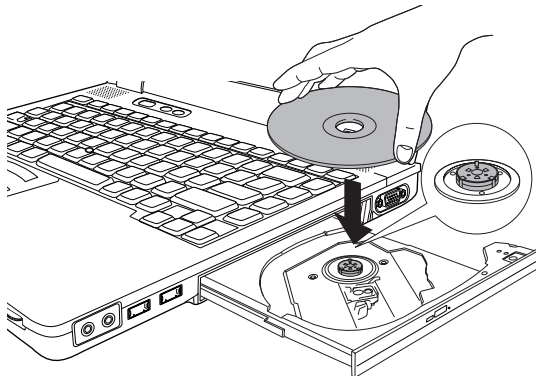

Figure 4-9 Inserting a CD/DVD
*When the drawer is fully opened, the edge of the computer will extend slightly over the CD/DVD tray. Therefore, you will need to turn the CD/DVD at an angle when you place it in the tray. After seating the CD/DVD, however, make sure it lies flat, as shown in figure 4-9.*